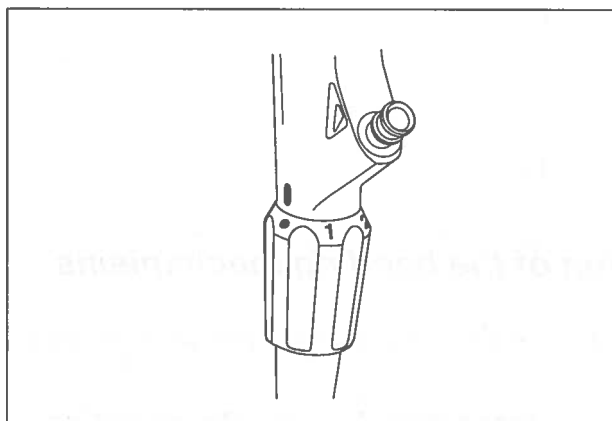

Figure 3.4
1. Confirm that the index markings ("●", "1", "2", "3") on the flexibility adjustment ring and the "1" mark at the bottom of the grip section are clearly visible (see Figure 3.4).